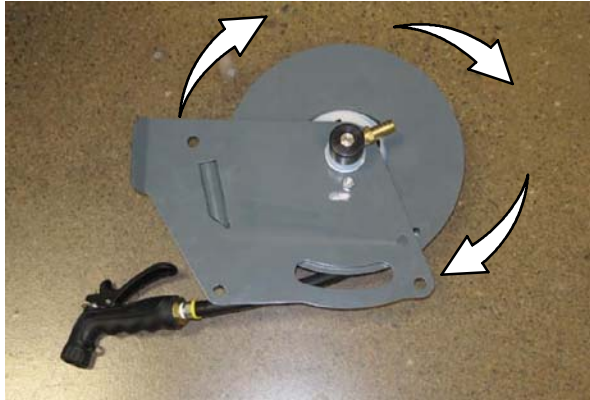

FIG. 2
5. Wind the spray hose (1) completely onto the reel and rotate the spray hose assembly mounting plate three complete turns clockwise to set the spring tension. Refer to Fig. 2.